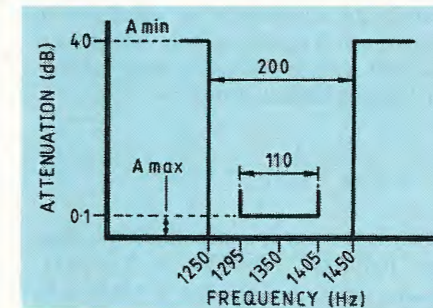
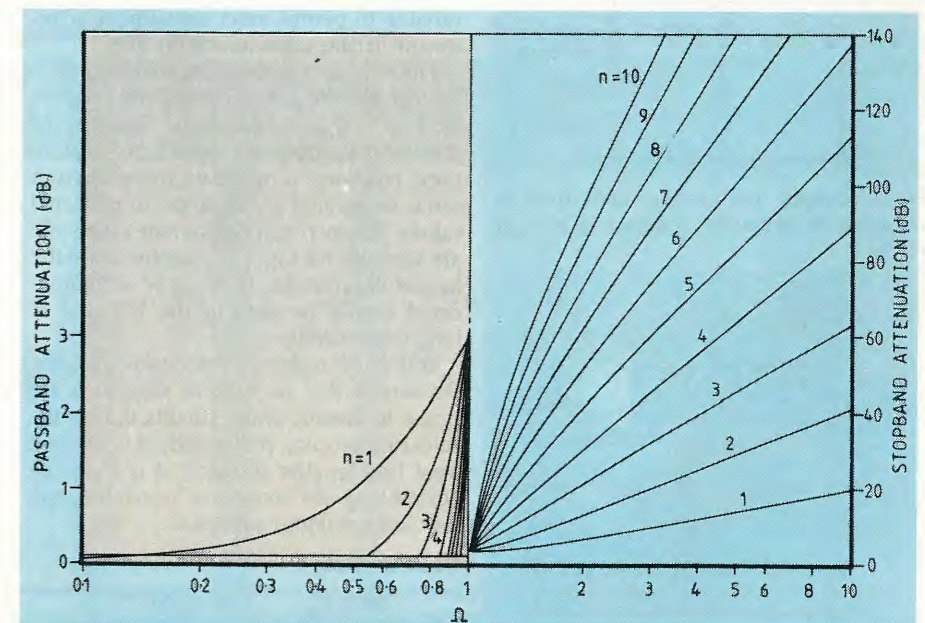

Fig. 1. Characteristics of band-pass filter under discussion.
Fig. 2. Attenuation characteristics of Chebyshev filter with 0.1dB ripple. A six-section filter (N=6) gives 45dB attenuation at a transition ratio of 1.8.
The basic requirements, in stylized form, are shown in Fig. 1.
The skirt shape specification for the filter will determine the type of transfer function selected and, since this is relatively steep (e), Chebyshev would seem appropriate, since 0.1 dB ripple is tolerable (f), and there are no particular phase-linearity requirements stated. The transition ratio, $200/110 = 1.8$, obtained from Fig. 1 (skirt BW at specified attenuation/3dB BW) will determine the number of sections (N) within the filter. The N/attenuation graph, Fig. 2, accompanying the tables in Ref. 1, indicates that a six-section Chebyshev 0.1 dB ripple filter will give approximately 45 dB attenuation at the